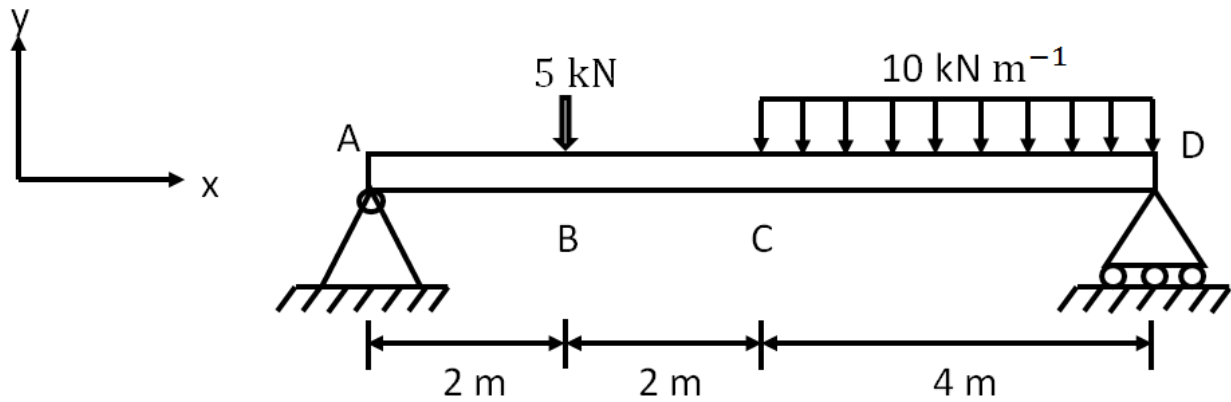

Fig. Q 3 (c)
- (c) Use unit load method to find the deflection at the center of the beam shown in Fig. Q 3